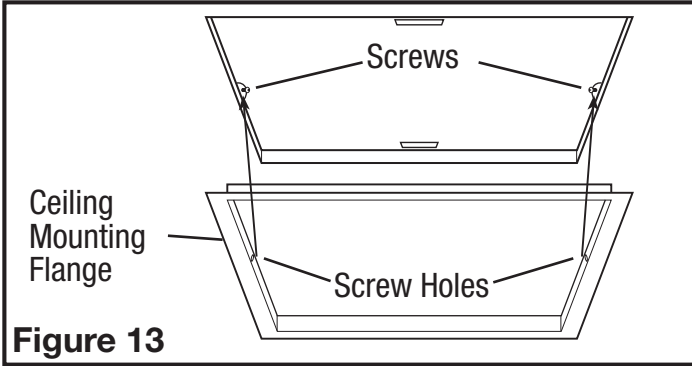

Figure 13
NOTE: If the mounting flange is installed on the fan housing, remove the two screws that connect the ceiling mounting flange to the housing and set aside (Figure 13).
4. Install the ceiling mounting flange to cover any gaps which exist between the housing and the finished ceiling. Remove the two screws that connect the ceiling mounting flange to the housing. Put sealant (not provided) on inside edge of the ceiling mounting flange to ensure that the flange is sealed to the ceiling. Line up the screw holes in the ceiling mounting flange with the screw holes on the inside of the housing and press flange in place so it is tight against the ceiling. Reinstall ceiling flange mounting screws inside the housing (Figure 13).